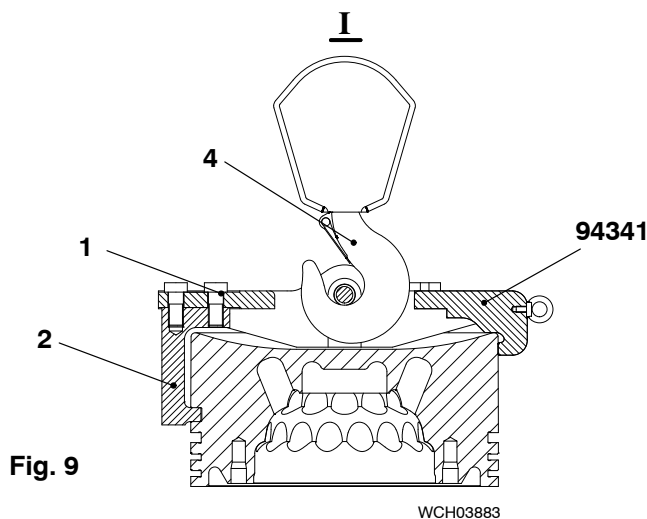

Fig. 9
- 22) Put the tool (94341, Fig. 9) in position on the piston crown. Make sure that the grooves for the brackets (2) align with the holes in the piston crown (3).
**Note:** To help you align the brackets (2), first attach one bracket to the tool (94341).
- 23) Attach the three brackets (2) to the tool (94341) with the six bolts. Make sure that the brackets fully engage in the holes in the piston crown (3).
- 24) Torque the six bolts (1) to 170 Nm.
- 25) Attach the crane hook (4) to the tool (94341).